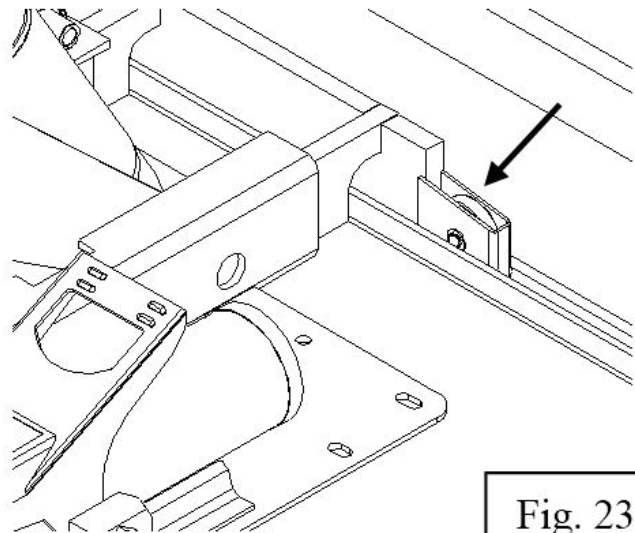

Fig. 23
- Check to make sure that all four rollers are seated properly on rails as shown in the fig.23.